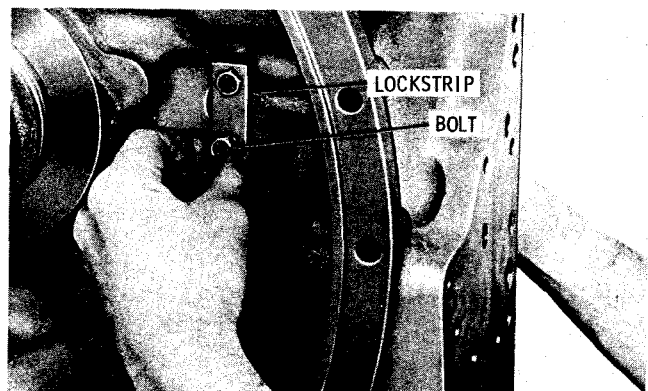

Fig. 7-67. Installing second-pitot tube bolt (CT, CLT, VCLT)
(4) Install one 5/16-24 x 2 1/2-inch bolt (with lockstrip) into the converter housing from the converter side (refer to fig. 7-67). Thread the bolt
(6) Rotate the pitot tube assembly to its correct position with a length of thin steel stock (refer to fig. 7-45) and install the remaining bolt with the other hand. Tighten both bolts to 14 to 18 pound feet torque and bend the corners of the lockstrip against the two bolt heads (fig. 7-67).